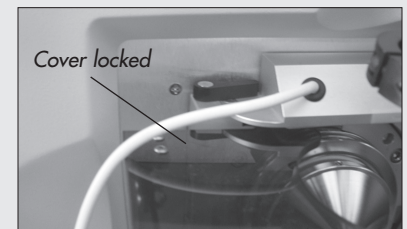

Figure 4.9 Source pushed firmly against flange
2. With the PicoView mounted on the Interface Flange base, gently slide the assembly toward the face plate of the LTQ™. A groove located at the top left of the Flange will lock the cover down when the source is pushed firmly against the flange and interlock switch. (Figure 4.9)